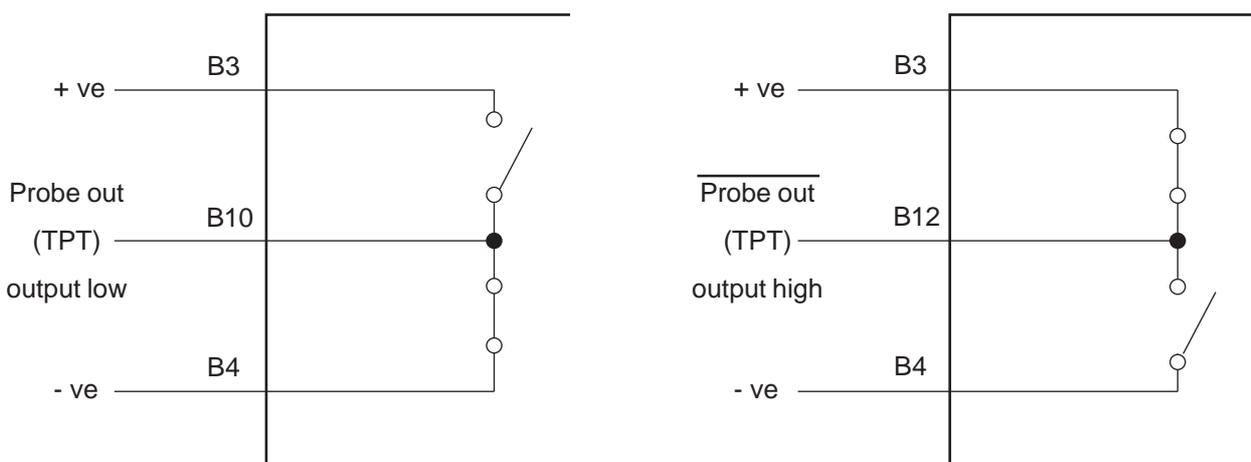

Figure 12
- Inverted probe out (see figure 12).